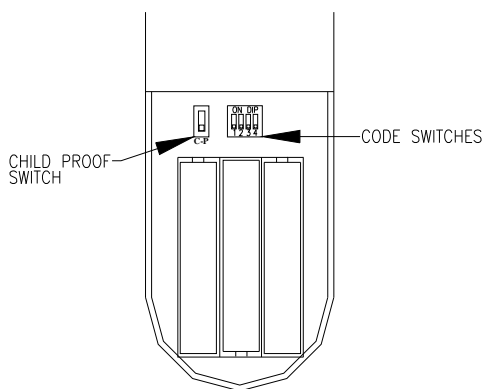

Figure 7
1. Remove the cover on the back of the **Remote Transmitter** to expose the **Code Switches**. Slide the **Code Switches** of your choice to the **ON** or **OFF** position. The factory setting is all OFF. Refer to figure 7.